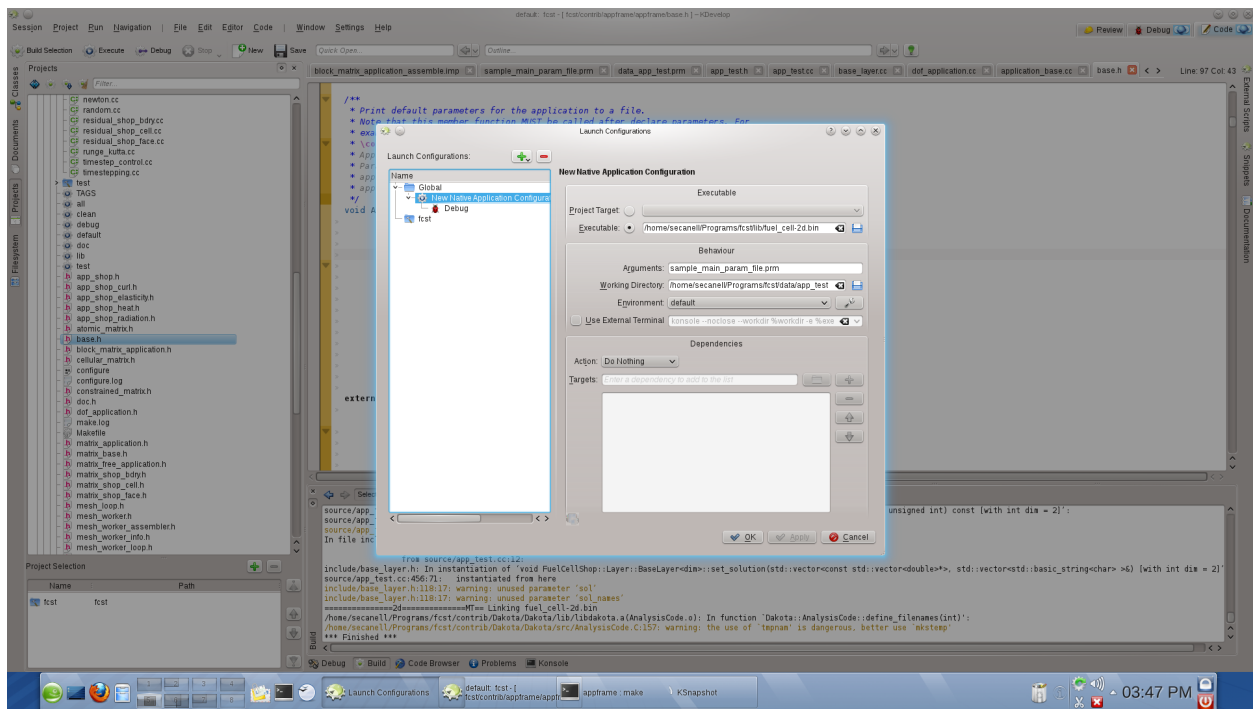

Figure 8.3: Configuring Launches in KDevelop.
- Go to **Run > Configure Launches...** . The window in Figure 8.3 will open.
- Select **New Native Application Configuration**, then on the right of the window, under Executables, enter the OpenFCST binary file, i.e. `OpenFCST_directory/Install/bin/fuel_cell-2d.bin`. Under Behaviour, in Working Directory enter the data folder from which you would like to run the code. In Arguments, enter the main parameter file, see Figure 8.3.